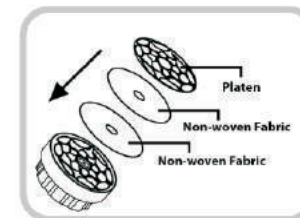

Fig.11
- Assemble the Resin Filter by first gently pulling out the Platen from the top of the filter. Place the two (2) Non-woven Fabric (white) on top. Secure both by placing the platen on top. (Fig. 11).